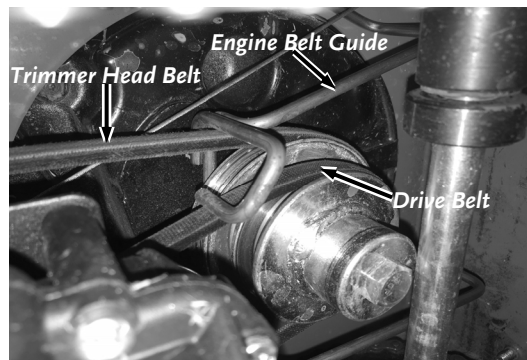

Figure 33
**Note:** Ensure that the Belts are positioned properly in reference to the Belt Guides (**Figure 33**).